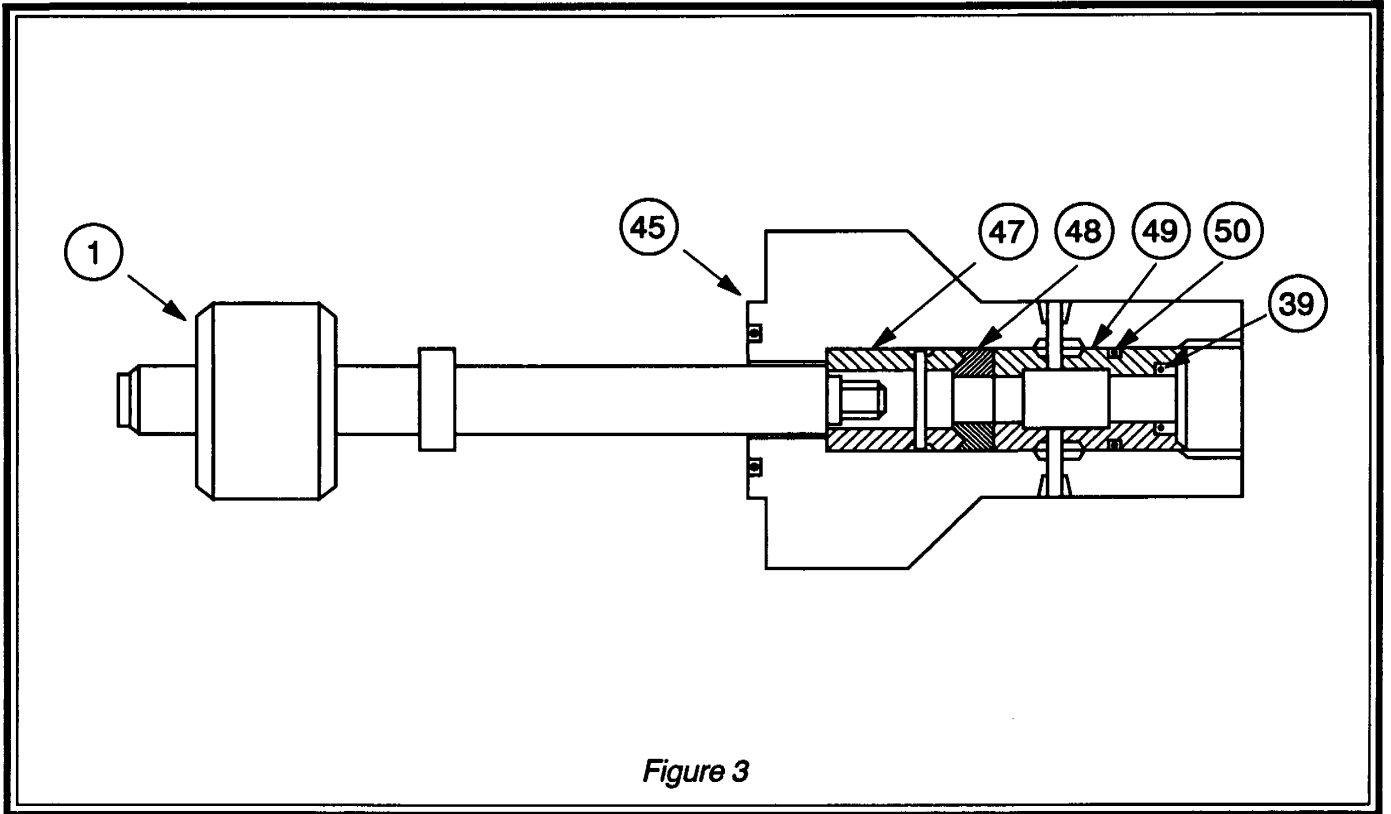

Figure 3
For item numbers listed in this procedure, refer to drawings D-19538, D-19593 and Figure 3.
2. Using the palm of your hand on top of the pulley belts to rotate them safely, rotate the drive pulley to position the plunger (41) into the full forward position of the stuffing box (45).
3. Remove all packing cooling tubing (30) and connectors (28) from the top and bottom of the stuffing boxes. This will allow easy removal of the stuffing box assembly.
4. Do not remove the front socket head cap screws (46), until you have rotated the plunger adapter coupling (43), so that the slotted section is in the vertical position. If you cannot rotate the plunger adapter coupling, fit the socket (T12) and extension (T10) together and slide onto the socket head cap screw and rotate to loosen up. The vertical position of this coupling will permit easy removal of the stuffing box assembly from the plunger adapter (42).
5. Using the torque wrench (T2) and the hex driver (T4), break loose four front socket head cap screws (46) that secure the stuffing box to the cylinder and set them aside.
6. From the bottom, hold the stuffing box in your left hand. Using the palm of your right hand, rotate pulley and push it straight back. As you continue to push, the stuffing box (45) and plunger (41) will start to clear the cylinder block. Make sure the plunger has completely cleared the cylinder block, then lift the stuffing box assembly straight up, disconnecting it from the plunger adapter.
7. Take the stuffing box to a bench for further disassembly. Be careful not to drop and lose the face seal O-ring (52) or the plunger and coupling assembly.
9. Remove rear packing seal nut (51). If too tight to free up by hand, using wrench (T11).
10. Using packing removal tool (T1), install stud end of the tool into the front of the stuffing box. Rap tool until the packing adjusting ring, packing and plunger ring have slid out. See Figure 3.
See drawings D-19538, D-19593 and Figures 3 and 4. The stuffing box must be packed first, and the O-rings must be installed to proper parts before starting. Use a good lubricant, such as petroleum jelly, on all O-rings prior to installation.
1. Assemble the O-ring (50) to the packing support ring (49). Slide plunger secondary seal (39) into the back of the packing support ring (49).
2. Stack the packing support ring (49), packing (48) and plunger ring with packing guide seating tool (T13) on the bottom, as shown in Figure 3. Using a good lubricant, such as petroleum jelly or equivalent, on the packing lips at both the inside and outside diameters, slide the stuffing box over the set. Push straight downward until the set has bottomed. Remove the seating tool and install the packing seal nut (51) finger-tight.